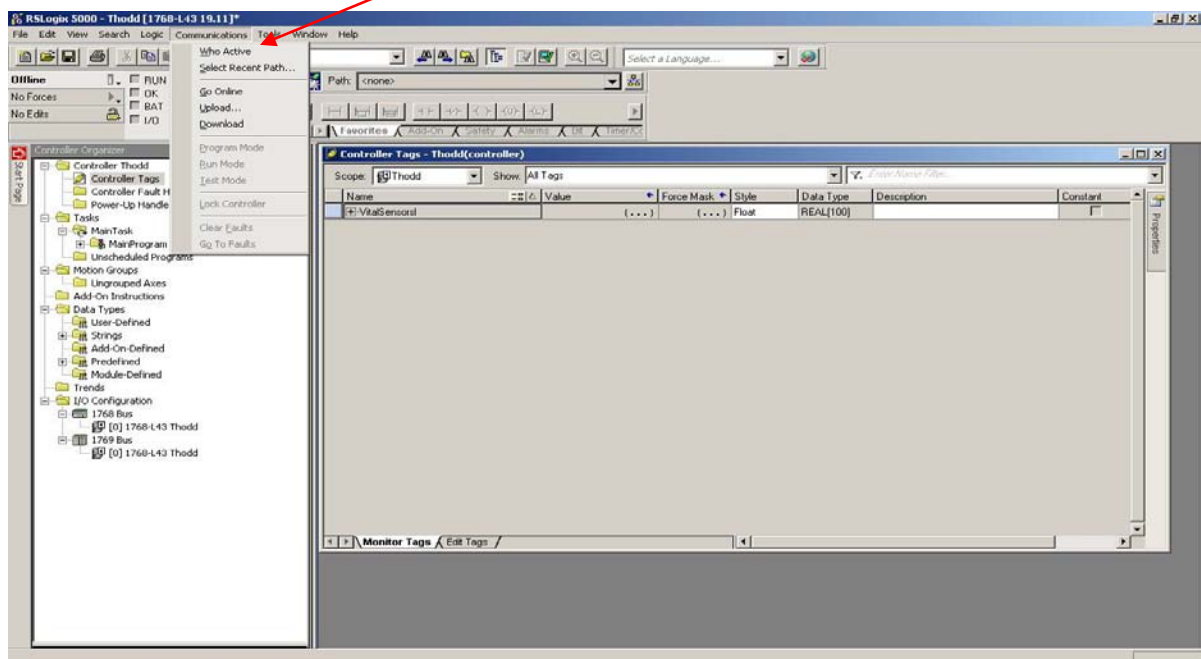

Figure: 6
4. Go to Communications>>Who Active. See Figure 6 below